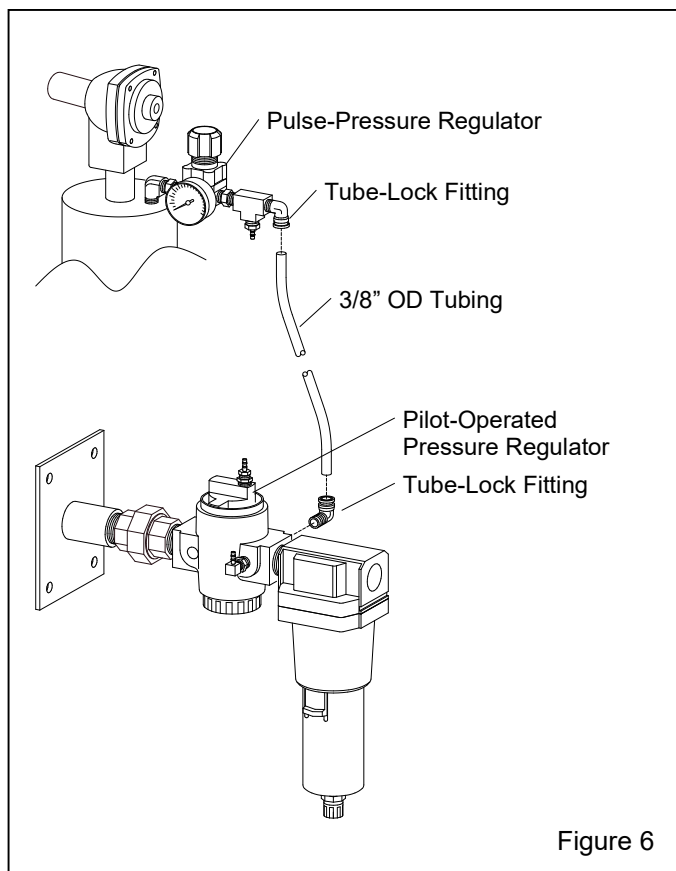

Figure 6
2.4 Connect Interconnecting Tubing – Figure 6